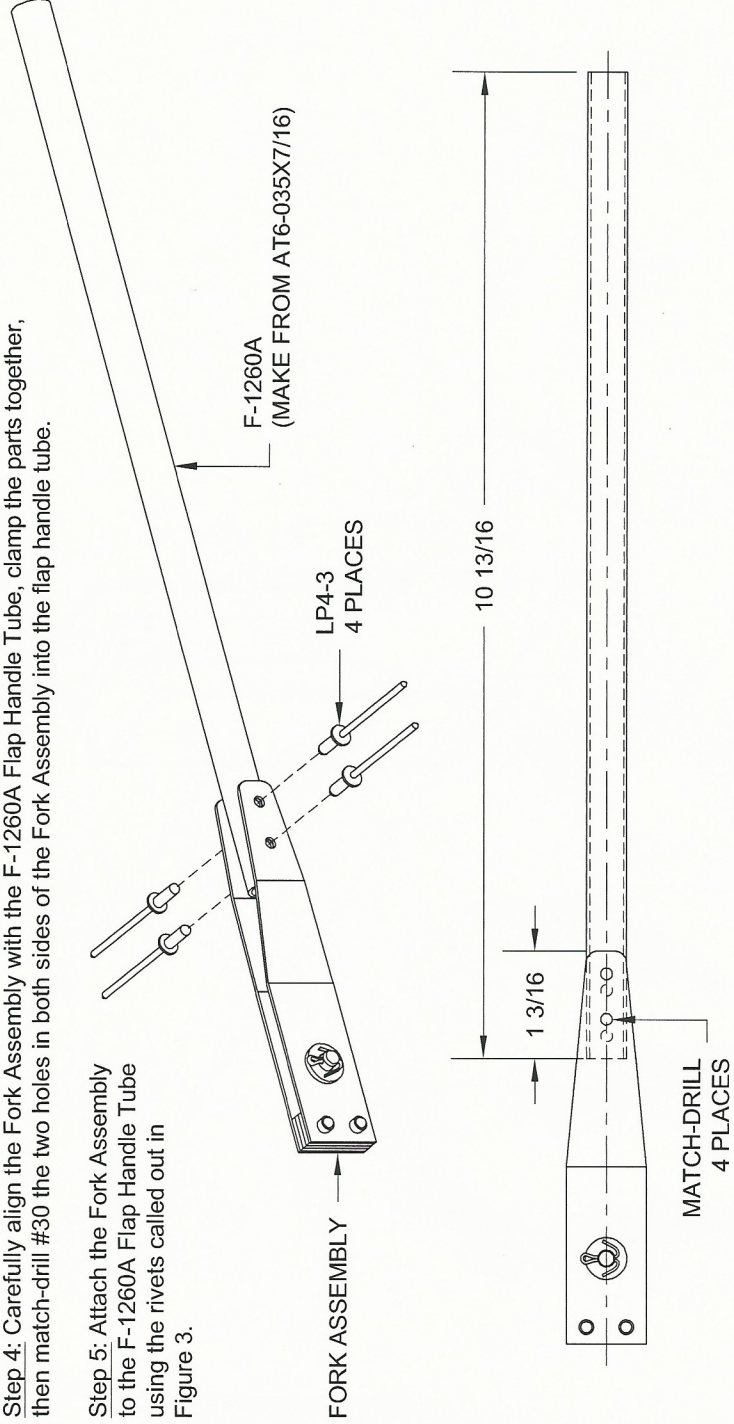

FIGURE 3: ATTACHING THE FORK ASSEMBLY
Step 3: Cut the F-1260A Flap Handle Tube to length according to the dimension provided in Figure 3.
Step 5: Attach the Fork Assembly to the F-1260A Flap Handle Tube using the rivets called out in Figure 3.